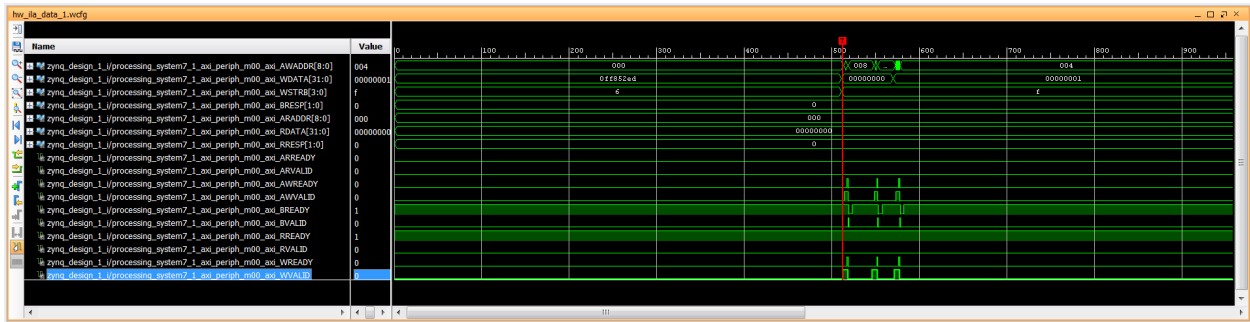

Figure 76: Trigger Mark goes to 1
Note: The trigger mark occurs at the first occurrence of the *WVALID* signal going to a 1 (Figure 76).
2. From the Getting Started page, select **New Project** (Figure 76).